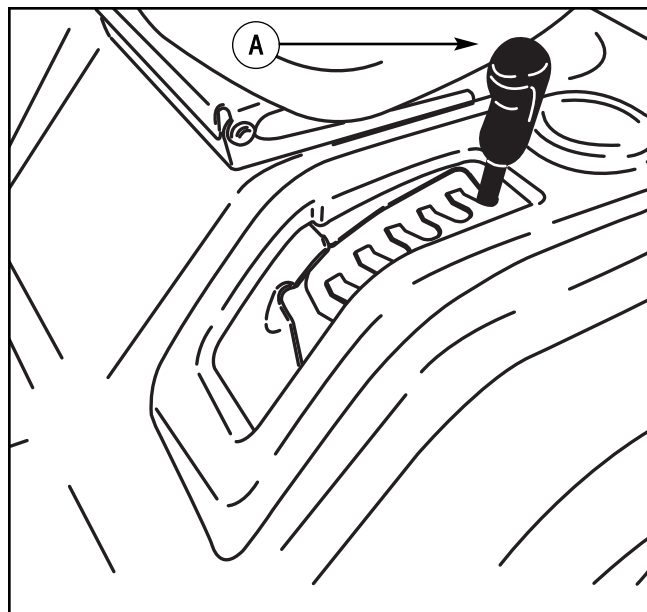

Figure 15: Lift control
1. Move the **deck lift lever** forward to lower the mower housing and back to raise the mower deck (Figure 15).